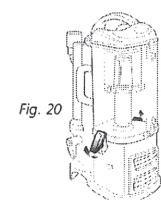

Fig. 20
- Undo the latches on the sides of the dust cup by lifting them up and outwards to remove the dust cup from the motor base. (Fig. 20)